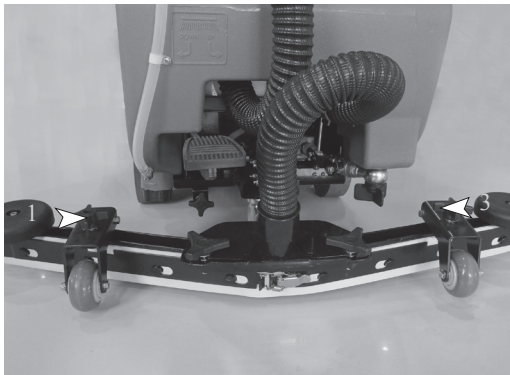

Figure 44
3. Adjust the regulating nut as indicated by arrow 1 in the following diagram if the middle of squeegee blade contacts the ground well but there is a small gap between left side of blade and the ground. Rotate the regulating nut clockwise to lift the left squeegee blade; counter-clockwise rotate the regulating nut to lower the left squeegee blade. Adjust the squeegee blade to an optimal status according to actual demands (Figure 44).